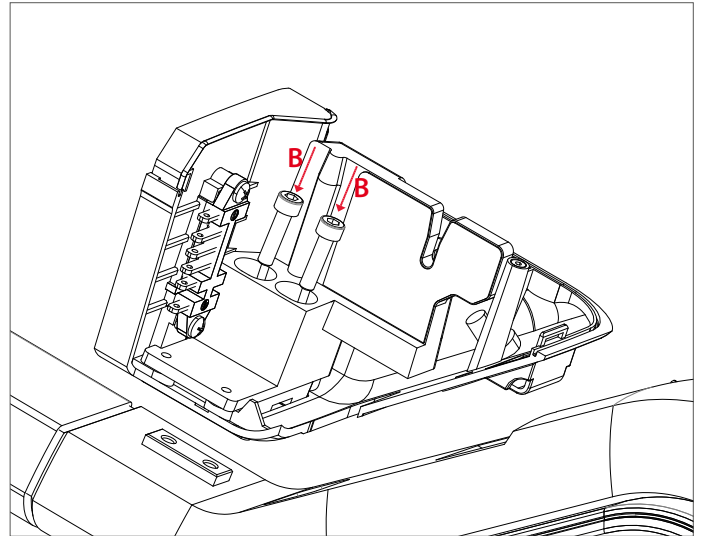

Figure 4.19 Docking station - Mounting
2. Use the two M5 x 16 fasteners [B] to mount the docking station to the frame (Fig. 4.19).